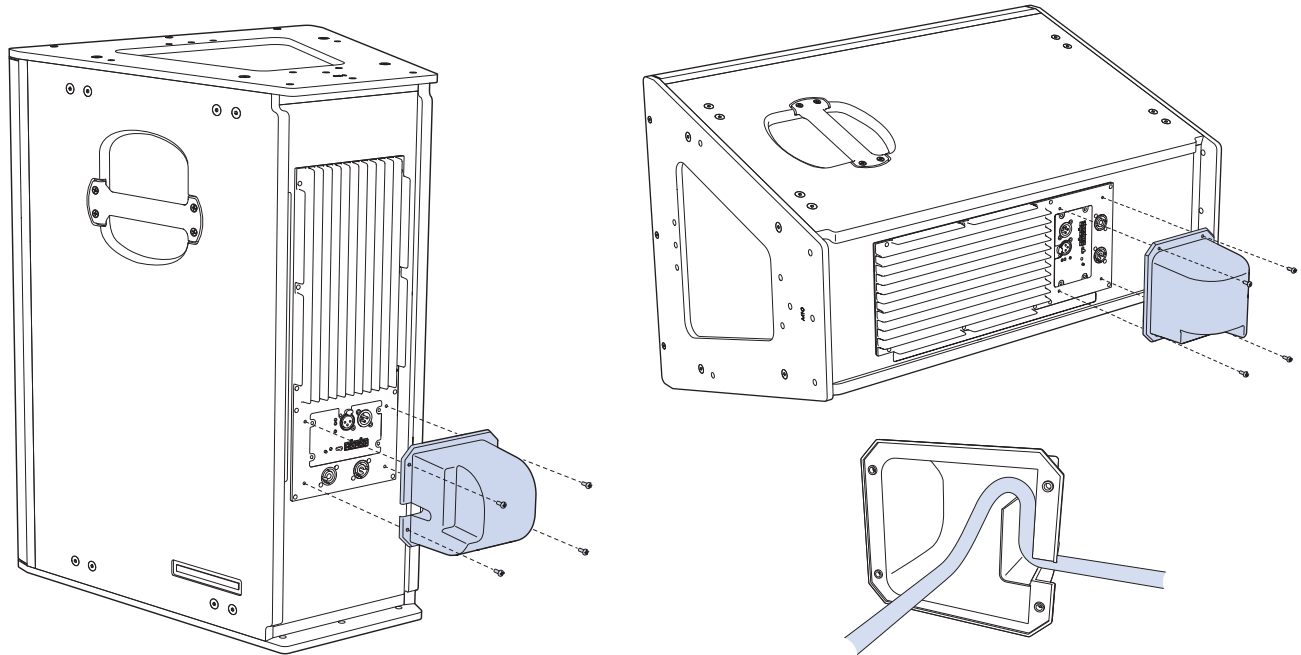

Figure 31: UPQ-D Series with rigid rain hood in Vertical Orientation (left), Horizontal Orientation (top right) and Interior Cable Routing (bottom right)
The UPQ-D Series rigid removable rain hood is easily attached and removed with the included four screws (Figure 31).
**CAUTION:** There is only one proper vertical loudspeaker orientation and one proper horizontal loudspeaker orientation once the rainhood is installed. See Figure 31.